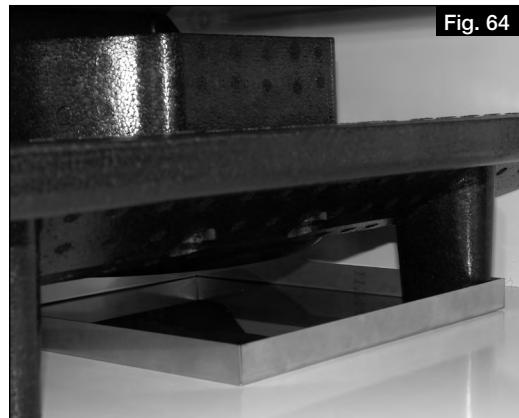
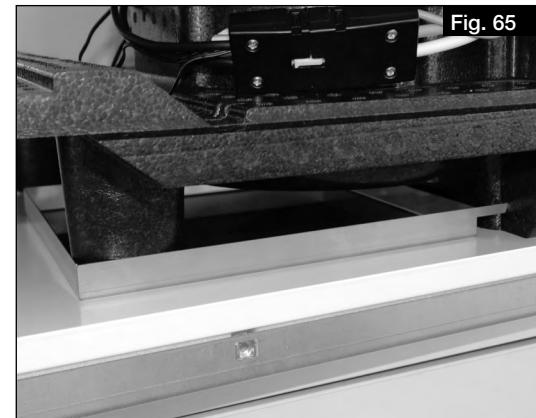

Fig. 64
Fig. 65
**The metal trays prevent the accumulation of condensate in this area and they must be checked for correct positioning (cf. Fig. 64 and Fig. 65).**